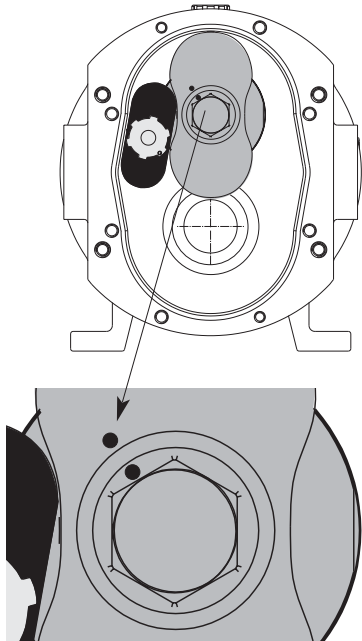

Figure 7
2. Position the indexed rotor **27** on the shaft (only one position) and the rotor locking tool **111** as shown in figure 7, and tighten the screw **25** to the specified torque (see § 7.1). If no torque wrench is available, tighten the rotor until the mark on the rotor is aligned with the mark on the screw. Remove the rotor locking tool **111**.